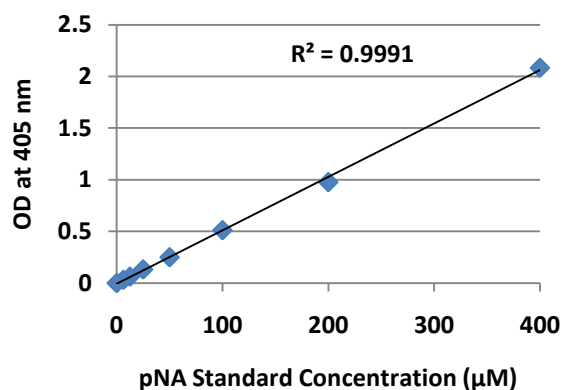

Fig. 2: pNA Standard Curve
- The chart in **Figure 2** illustrates typical OD values resulting from serial dilutions of the **pNA Standard** included in this kit.
- Optical Density (OD)** readings from test samples can be compared against:
Note: Use the sample data in Figure 2 for reference only. Actual values may vary between runs and labs.